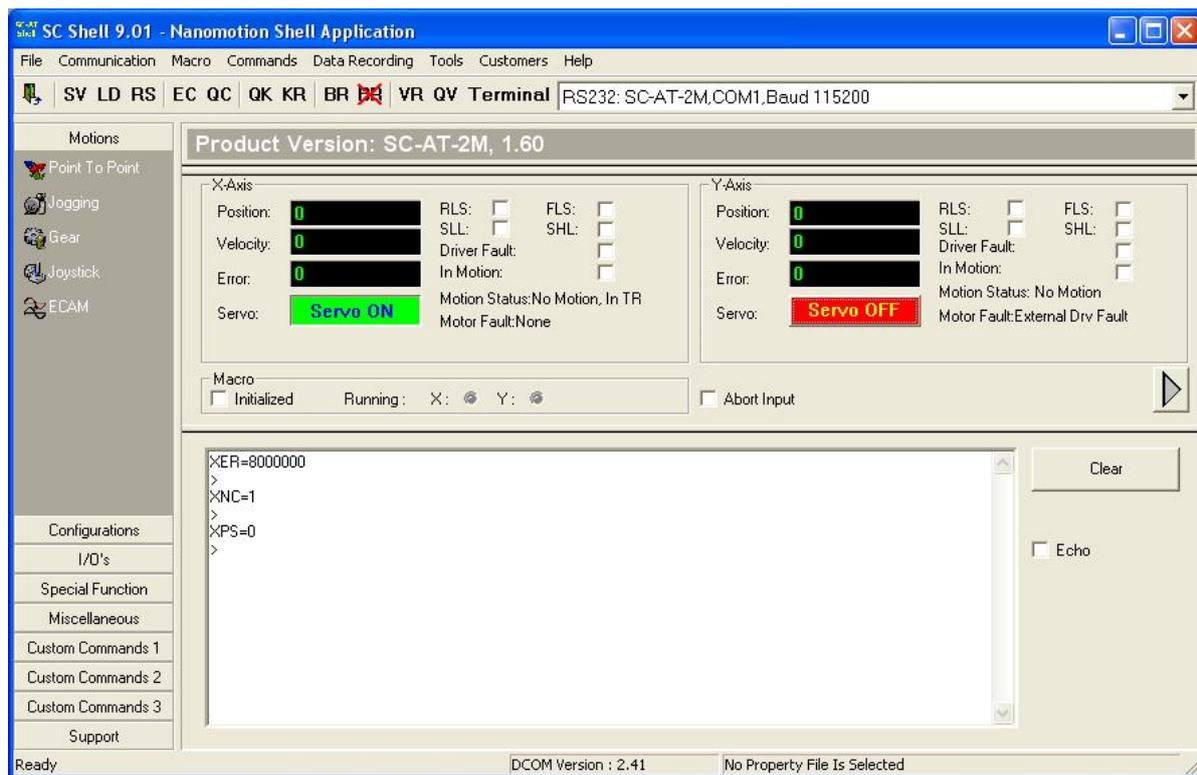

Figure 6: Nanomotion Shell Application Main Screen (Axis X)
2. Enable the motor by pressing the “Servo OFF” button. Ensure that the button changes from red color to green, see Figure 6.